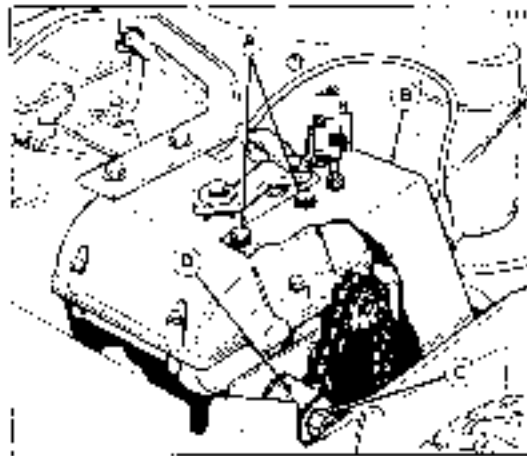

Figure 44. Chain Adjustment
1. Remove the cover (B) (Figure 44) by removing the screws (A).
2. Loosen the locknut (C) which holds the spacer (D) in place.